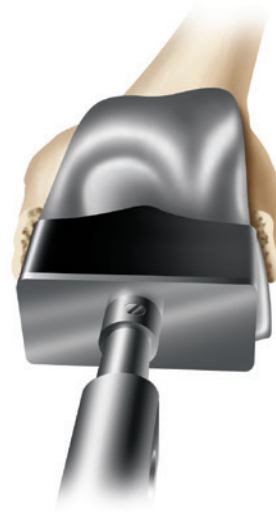

Figure 60
- 2 Place the femoral implant onto the femur and use the femoral impactor to fully seat the implant (Figure 60).